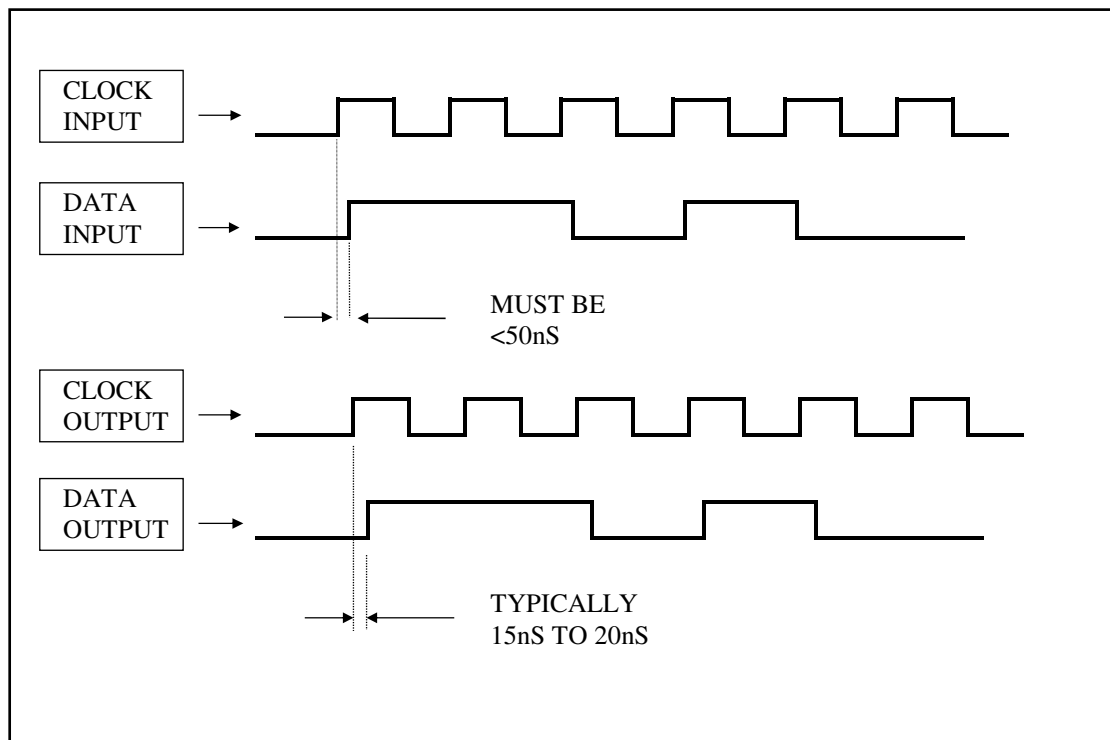

FIGURE 5: TIMING DIAGRAM
Likewise ensure that the receiving equipment can accept the phasing of the clock and data signals output from the OSD151 which has the clock going logically high about 15ns to 20ns before the data bit. Refer to Figure 5 for more details.
- ▲ If synchronous operation is selected check that the system is generating correctly phased clock signals and that it accepts the phasing of received clock signals with respect to the received data signal. Refer to FIGURE 5 for the correct phasing.